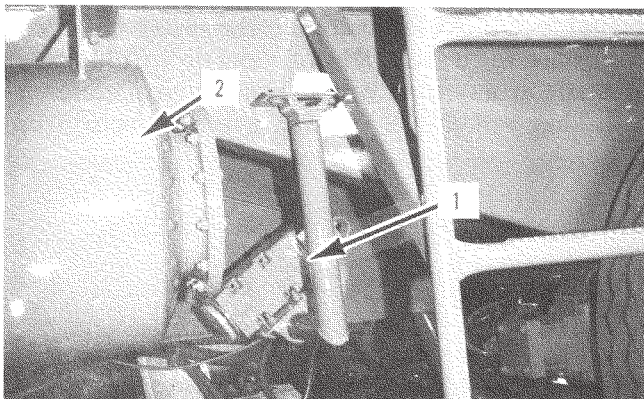

Figure 8a.
A digital readout of speed, reading to the nearest foot per minute, is provided. The display uses a ground speed radar (Figure 8a) to generate pulses. The pulses are fed to both the automatic speed controller and a conditioning circuit which then feeds the signal to the digital display.
The same ground speed radar (Figure 8a) that feeds a signal to the conditioning circuit for the digital display (6) also feeds its signal to the automatic speed controller. The automatic speed controller compares the feed back signal to the desired speed as set by the auto speed set point (3).